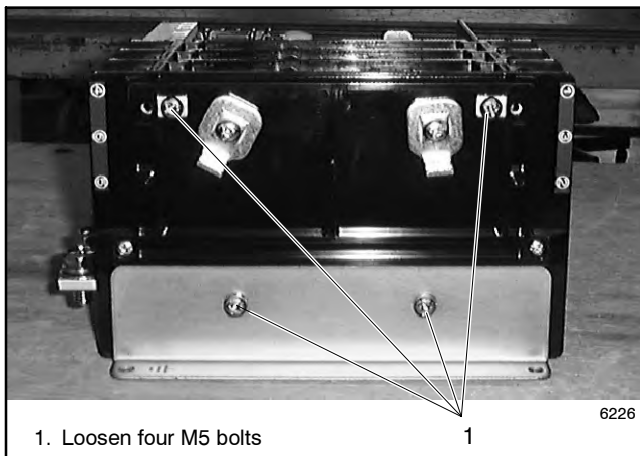
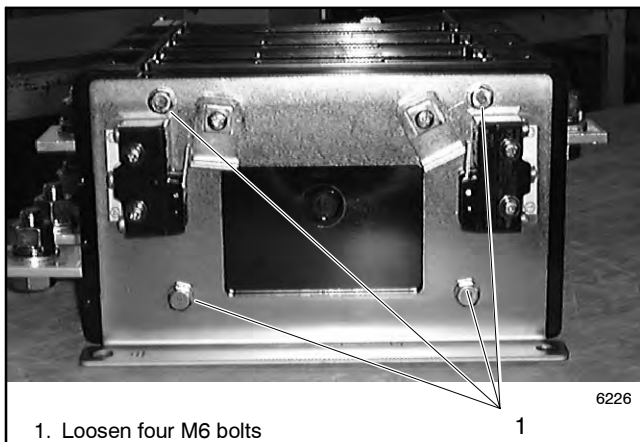
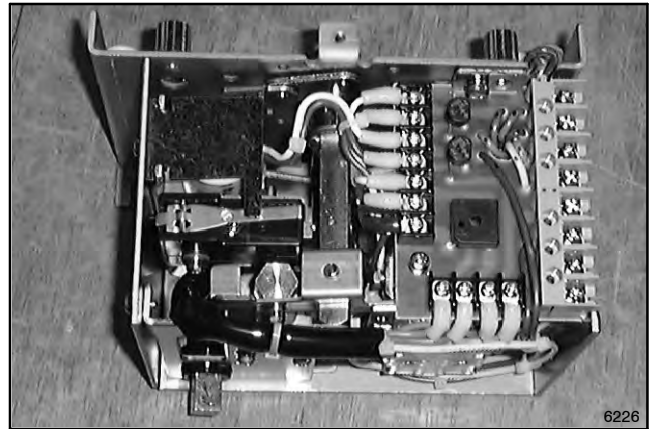

Figure 7-4 Separating Units, 100 and 200 Amp
Figure 7-5 Separating Units, 400 Amp
Figure 7-6 Mechanical Unit
4. Loosen four bolts and separate the mechanical unit from the current-carrying unit. See Figure 7-4, Figure 7-5, and Figure 7-6.